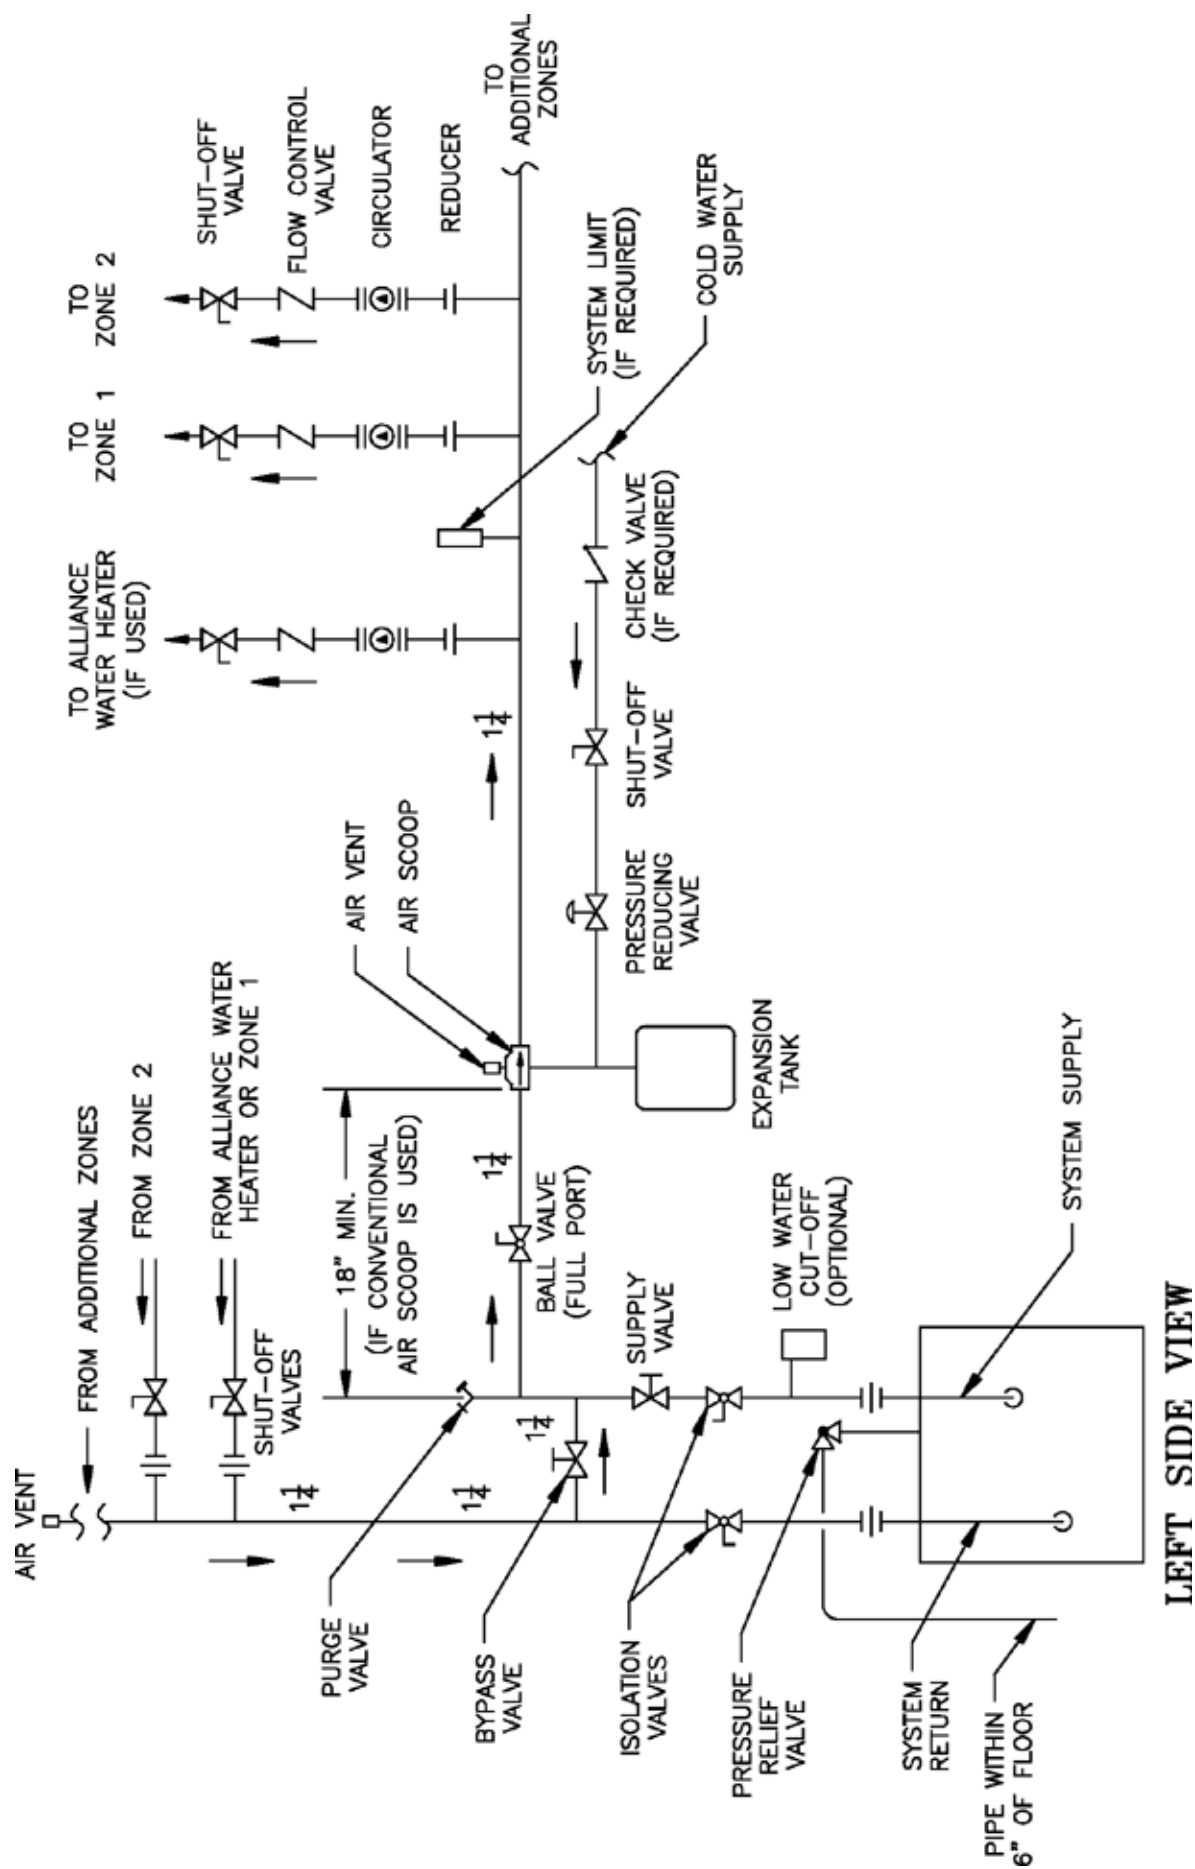

Figure 7: Recommended Water Piping for Circulator Zoned Heating Systems
B. Connect system supply and return piping to boiler. See Figures 7 and 8. Also consult I=B=R Installation and Piping Guides. Maintain minimum ½ inch clearance from hot water piping to combustible materials.
D. Install Pressure Relief Valve. See Figure 7 or 8. Pressure Relief Valve must be installed with spindle in vertical position. Installation of the relief valve must comply with the ANSI/ASME Boiler and Pressure Vessel Code, Section IV.
- Install pipe tee between circulator and boiler return along with second tee in supply piping as shown in Figures 7 and 8. Bypass should be same size as the supply and return lines with valves located in bypass and supply outlet as illustrated in Figures 7 and 8 in order to regulate water flow to maintain higher boiler water temperatures.